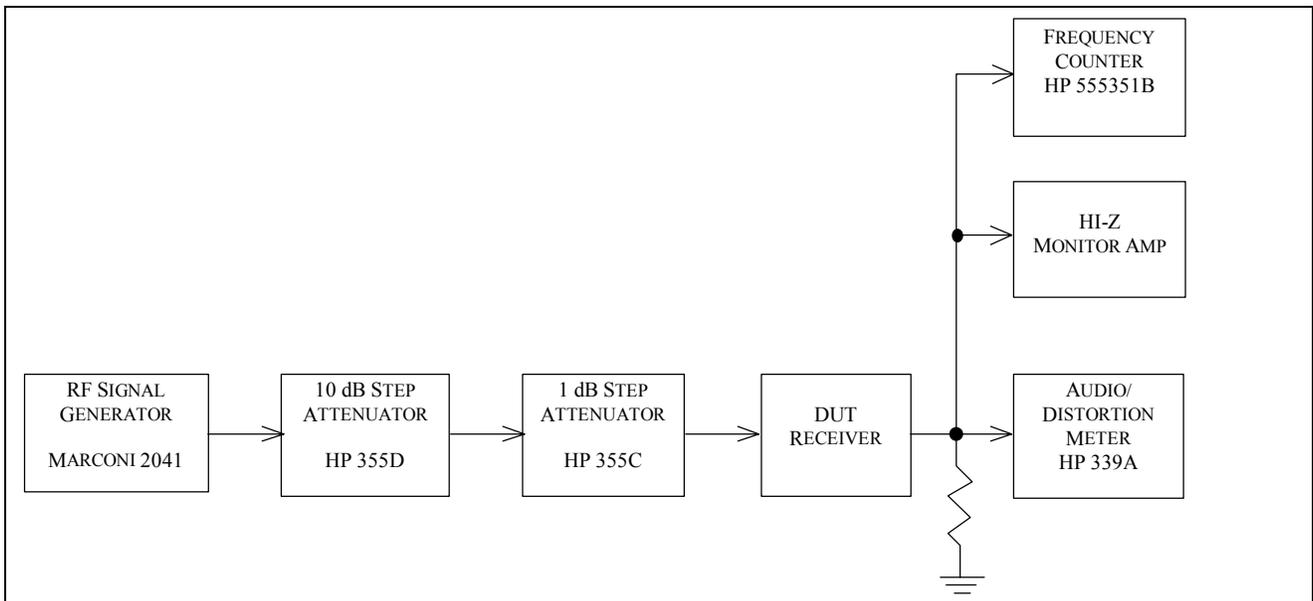

Fig. 5-12 — Audio and IF Frequency Response Test Hook-up
5.12.2 Test hook-up (See Fig. 5-12)